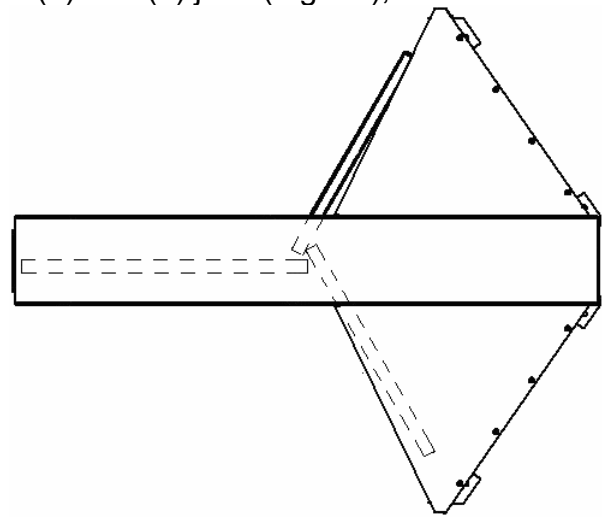

Fig. 12 The barrier wings in the reset state (above view) installed for Lock-chamber operation
- for standard operation: install the rotor so that the passageway is closed by one barrier wing placed in parallel with the mounting holes' axis of symmetry (Fig. 13) in the direction of the guide barrier sections (6) and (7) joint (Fig. 12);